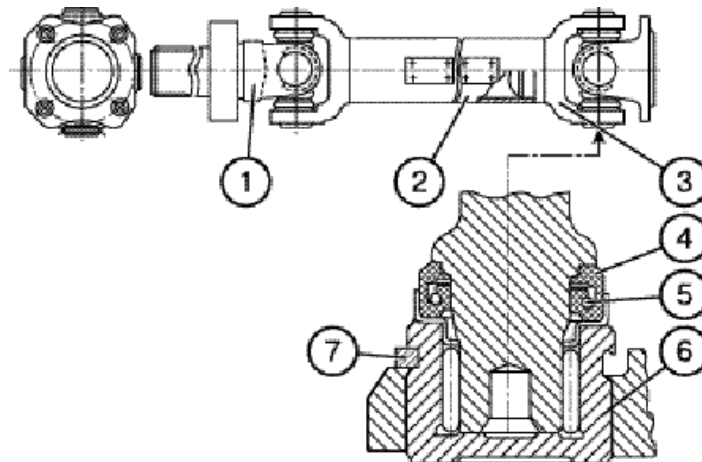

Fig. E-27. Cardan shaft:
The cardan shaft consists of a tube (2) and two hinges (1), (3) (Fig. E-27) with the cross bar running in needle bearings (6). The needle bearing cages are locked with retaining rings (7); the cross bars trunnions are provided with edge-joint packings (4) and self-tightening collars (5).